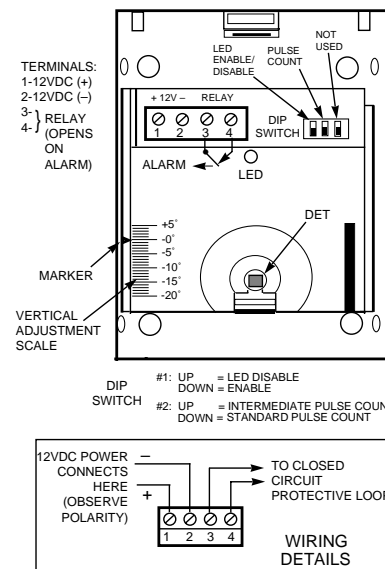

Figure 5. Wiring Connections
4. Mount the base. **Note the mounting orientation of this detector – wire entry at the top, lens at the bottom!** Make sure the board is positioned so that the arrow is in line with the appropriate setting on the graduated scale (see Figure 5 and Table 1).
Note the mounting orientation of this detector – wire entry at the top, lens at the bottom! Make sure the board is positioned so that the arrow is in line with the appropriate setting on the graduated scale (see Figure 5 and Table 1).
The protection pattern can be raised or lowered by repositioning the PC board in the detector. A graduated scale to the left of the board (see Figure 5) indicates the approximate number of degrees by which the pattern can be raised (max. +5°) or lowered (max. -20°). To make this adjustment, slide the board upward or downward by the number of degrees required. After any adjustment, conduct a Walk-Test to ensure proper coverage of the area to be protected (see "Test Procedures").
Bring all wires in through the wire access slot at the top of the detector base (near the terminal block) and connect to the screw terminals (see Figure 5 for wiring details). Seal any openings in the base with foam or RTV (not supplied) to prevent drafts or insects from entering the unit. *Apply power only after all connections have been made and are inspected.*
To enable the LED, set the DIP switch #1 **DOWN** (see Figure 5 for switch location). To disable the LED, set DIP switch #1 **UP**. Use a small pointed tool to move the switch handle up or down.
For Intermediate Pulse Count, set the Pulse Count DIP switch #2 **UP** (see Fig. 5 for switch location). For Standard Pulse Count, set DIP switch #2 **DOWN**. Use a small pointed tool to move the switch